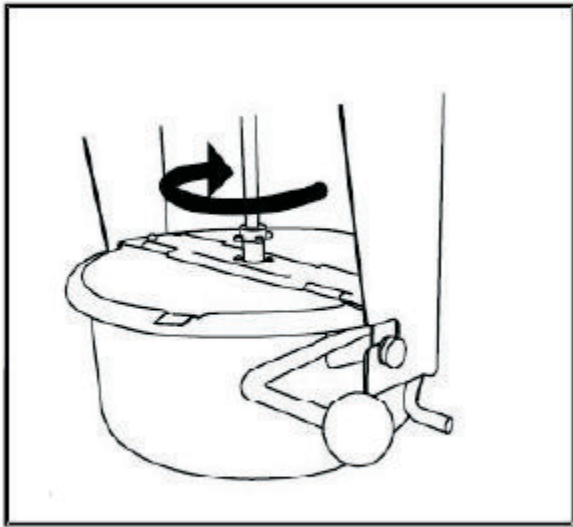

Fig. 3
8. Switch the Stirrer to ON (II). (Fig. 3)